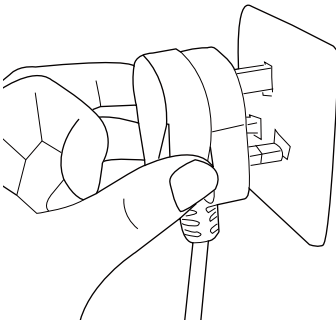

Fig 7
3. Connect the plug to the socket of the extension cord (Fig 7).